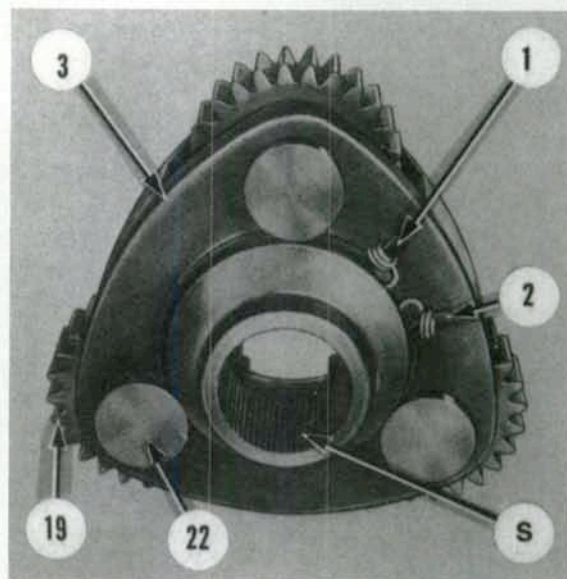

Fig. 241—Planet gear shafts (22) are retained in carrier (3) by retainer ring (2).
Cut and remove locking wire (1—Fig. 241) from planet gear shaft retaining snap ring (2). Pull ends of snap ring together to disengage ring from planet gear shafts (22), then drive the shafts out snap ring side of carrier.
tion planet gear in carrier and insert gear shaft from snap ring side of carrier. Seat retaining snap ring in notches in shafts. Push a new locking wire under the snap ring and secure wire by wrapping ends around snap ring projections as shown in Fig. 241.